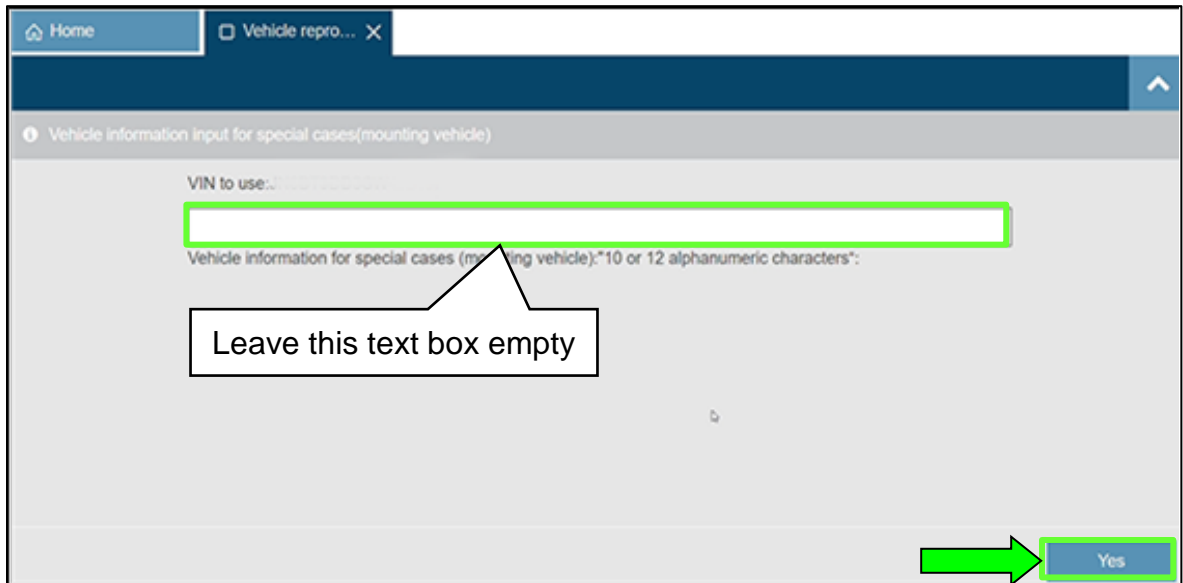

Figure 12
12. If the screen shown in Figure 12 is displayed, continue to step 13. If the screen shown in Figure 12 is NOT displayed, skip to step 16 on page 11.